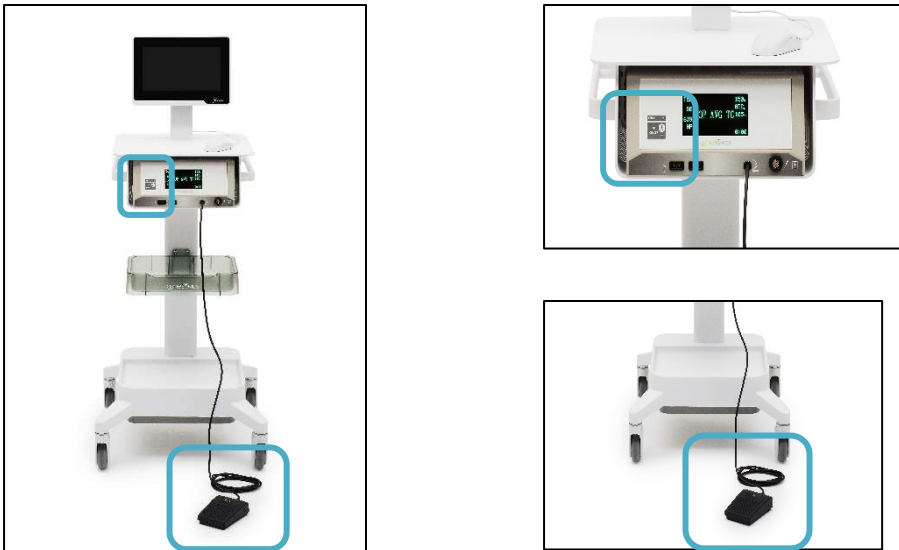

Figure 4-29. To manually stop RF energy, step on Footswitch or press RF Generator ON/OFF button.
Once the system is in READY mode, the RF ablation does not begin until activated by stepping on the Footswitch or pressing the RF ON/OFF button on the front of the RF Generator, see Figure 4-29.
- To activate RF energy, momentarily step on the Footswitch one (1) time or press the RF ON/OFF button on the front of the RF Generator, see Figure 4-29. The RF Generator will then apply RF energy to the tissue through the Introducer and Needle Electrodes.
- If the patient moves or the Operator's hand position has changed, the Thermal Safety Border may be crossing over the serosal margin. Immediately stop the RF ablation, retract Needle Electrodes, retract Introducer, and retarget, see Figure 4-29.
- To stop the RF ablation at any point, step on the Footswitch or press the RF ON/OFF button on the RF Generator, see Figure 4-29.